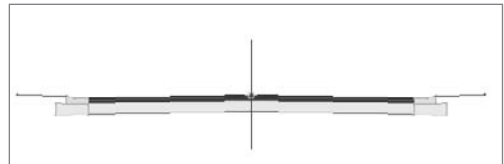

Figure A.71
15. Change the Side parameter on the AutoCAD Properties palette to Left. Click the circular point marker on the right of the UrbanCurbGutterValley1 subassembly that represents the top rear of the curb. The finished assembly will look like Figure A.71.